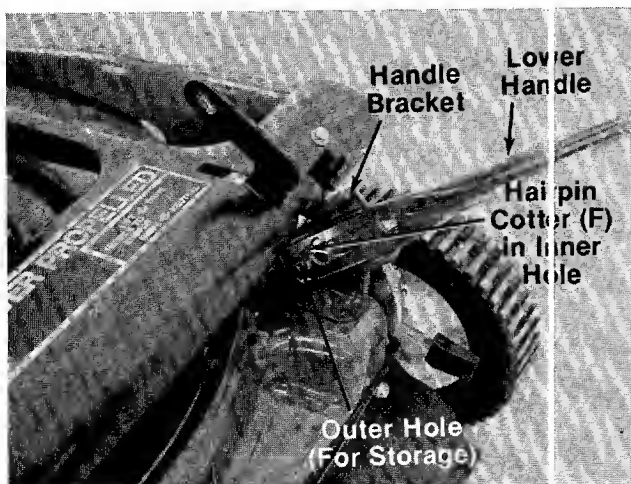

FIGURE 2.
- C (2) Lock Washers 5/16" I.D.
- D (2) Hex Nuts 5/16-18 Thread
- E (2) Cable Ties
- F (3) Hairpin Cotters
- G (1) Plastic Plug
- H (1) Ferrule
- I (1) Clutch Rod (Not Shown)
- J (1) Spring (Not Shown)
3. Attach the lower handle by placing the bottom holes in the lower handle over the weld pins on the handle mount brackets. Make certain the instruction label on the lower handle can be read from the operating position. Secure with hairpin cotters (F) in inner holes on weld pins. See figure 2.